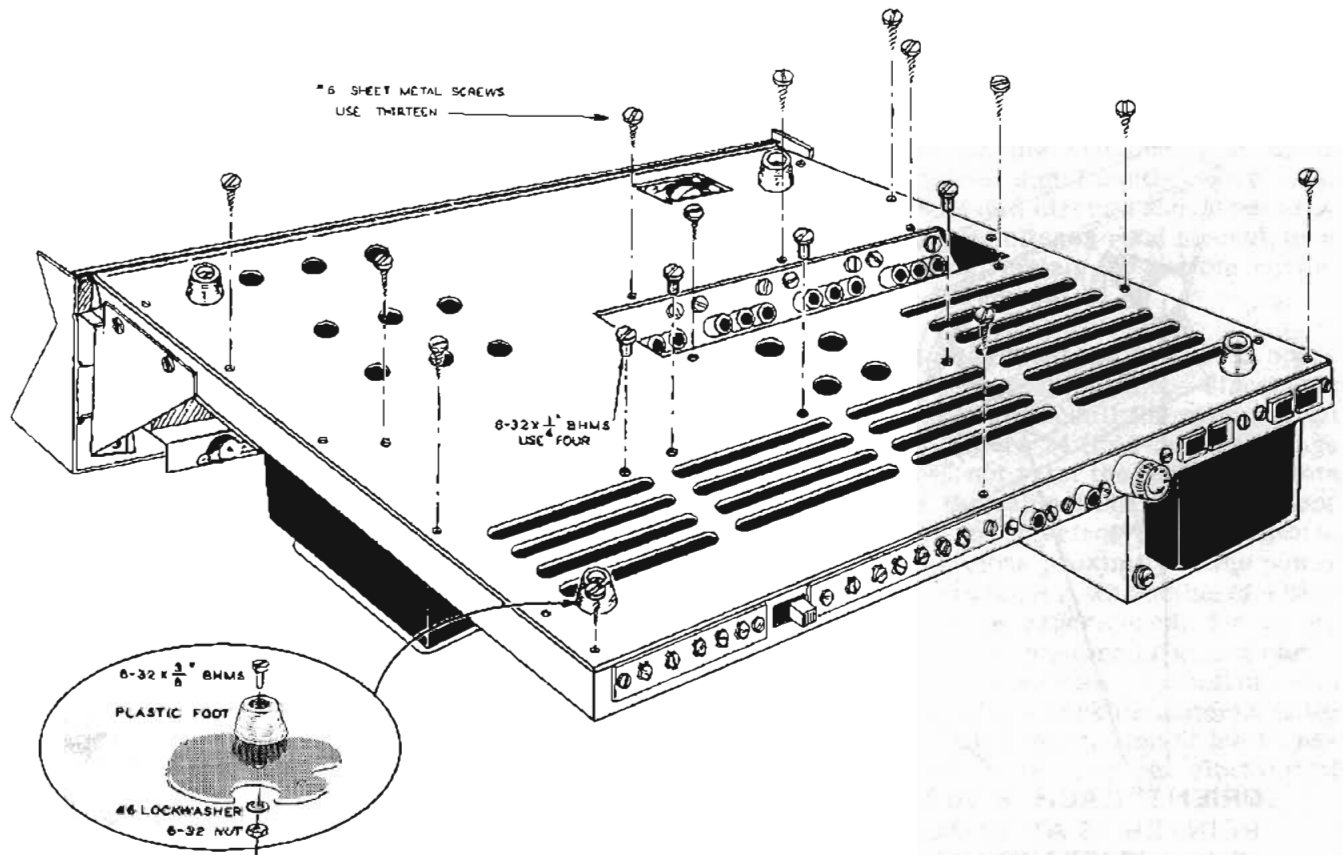

Figure 22
- ( ) As shown in Figure 22, install the four plastic feet on the chassis bottom cover. Then install the bottom cover, using thirteen #6 sheet metal screws, and four 8-32 x 1/4" BHMS. Note: Use only the screw holes indicated; the remaining six holes will be used when the cabinet shell is installed.
present at the junction of R-105 and R-106 (also hole 40 on small circuit board). The latter voltage is NEGATIVE with respect to chassis. Note the conditions of measurement stated on the schematic. If these voltages deviate significantly more than 10%, the associated circuits should be carefully checked. If voltages read normal, turn power OFF and install the bottom cover, as shown in Figure 22.